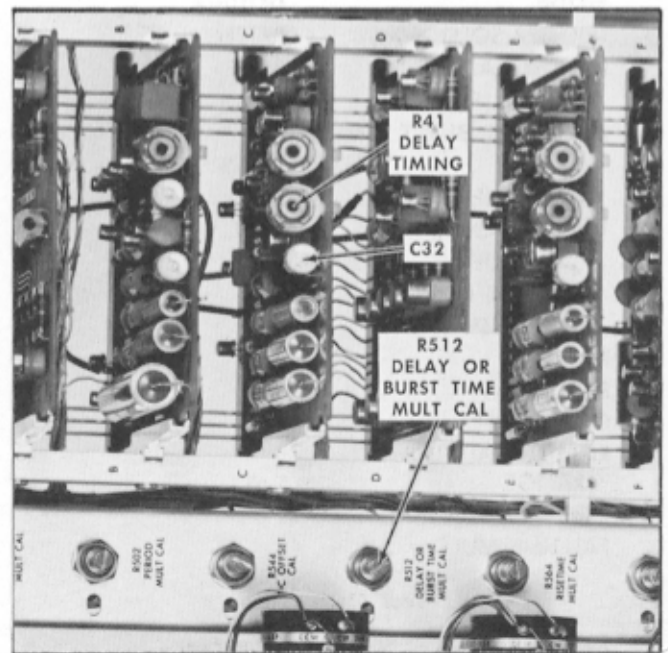

Fig. 7-32. Location of delay timing adjustments on the Delay Generator (Series C) card and on the Type R116 chassis.
- e. Adjust—R512 (DELAY OR BURST TIME MULT CAL) on the Type R116 chassis (see Fig. 7-32) if the delay interval is not correct.
j. Adjust—R41 (DELAY TIMING) on the Delay Generator circuit card (Series C) if the delay interval is not correct. See Fig. 7-32 for the location of R41.